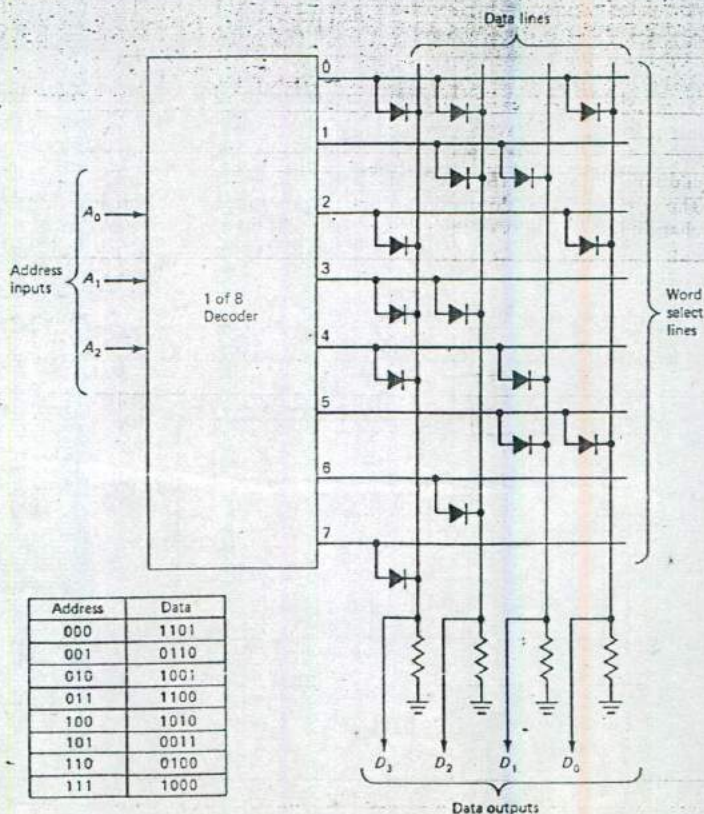

Fig. 11-45 An 8×4 -bit ROM.
Figure 11-45 shows a simple diode ROM. It is arranged as a matrix of eight 4-bit words. A decoder circuit translates the bit pattern on the address input lines to one of eight word select lines. When the address inputs are all low, word select line 0 goes high. Note that there are three diode anodes connected to the 0 select line. Current flows from the
decoder, through the three diodes, and into three of the load resistors. The data outputs are high at these three locations. The word stored at location 0 is 1101. If the address input lines are changed to 001, word 1 is selected. The data output is now 0110. Examine the diode matrix, the table of addresses, and data in Fig. 11-45 and verify each 4-bit data word.
Mask ROMs are not cost-effective for small and moderate quantity designs. For this reason, *field-programmable ROMs* have been developed. These devices make producing any number of ROMs feasible. They are programmed by fusing diode jumpers inside the memory matrix. Refer again to Fig. 11-45. A field-programmable ROM can be based on a diode matrix. The device will be shipped with a full array of diodes. A momentary high programming current can be applied to those diodes that must be removed from the matrix. For example, word 5 shows two diodes. The diodes in the two most significant positions can be eliminated by passing a large current through them to fuse their connecting links and remove the diodes from the matrix. A second technique of field programming is the *blown diode system*. It also uses a high programming current but in pulse form. Selected junctions are short-circuited by aluminum migrating across the junction. The migration is caused by the high current pulses. Whichever programming process is used is performed in a special piece of equipment called a *programmable read only memory (PROM) burner* or *PROM programmer*.
45. What would have to be done to the ROM circuit shown in Fig. 11-45 to change the last stored word to 1111₂?